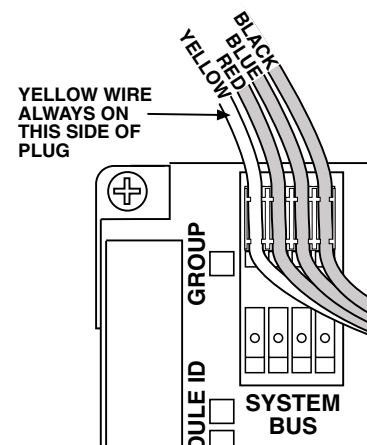

Figure 23. Observe correct System Bus polarity. It is fine to leave one header unused.
3. Connect the system bus to all modules having headers marked SYSTEM BUS. The connectors are polarized, so they will only connect in one direction, but always make sure to prevent the possibility of plugging the system bus to the header backwards (see Figure 23).